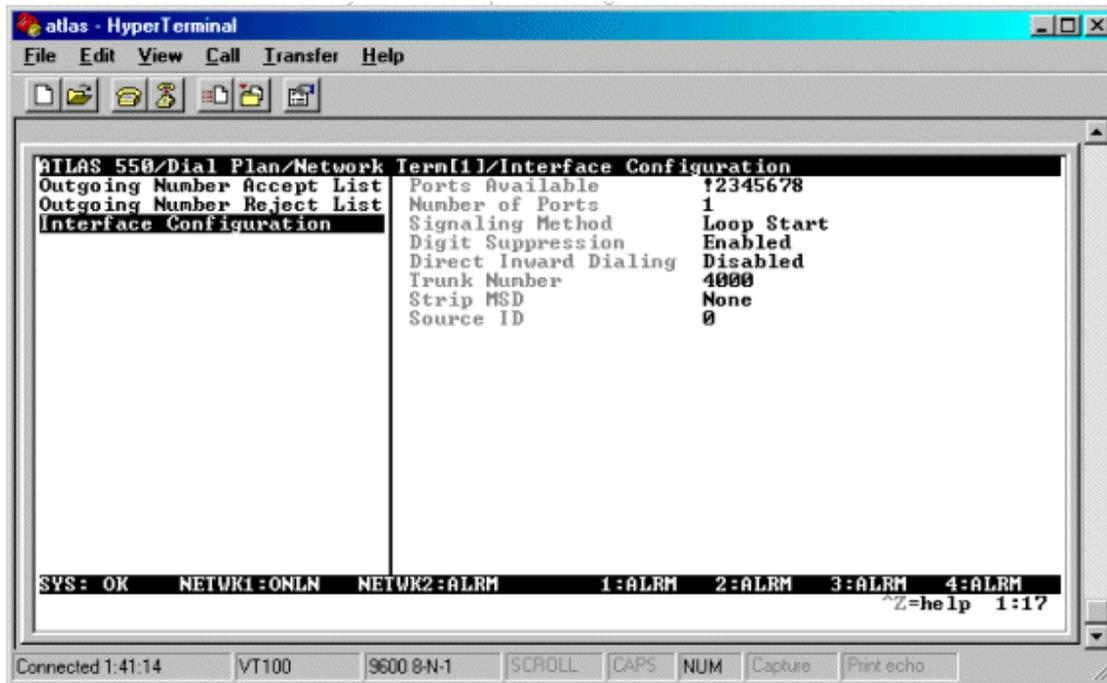

Figure 11
- Select **Ifce Config** and press <enter>. You should see the screen shown in **Figure 11**.